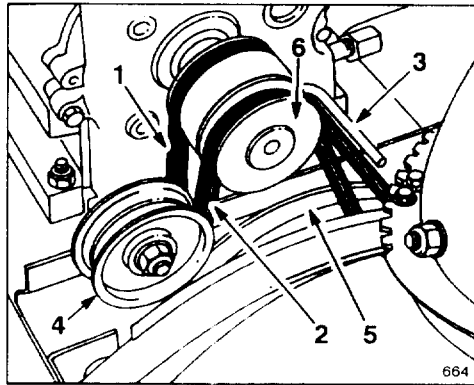

Figure 24
3. Remove auger/impeller drive belt from engine pulley and large auger/impeller pulley (Fig. 24).
4. Install new belt around large auger/impeller pulley (Fig. 24). Next, loop belt over engine pulley, making sure that belt is on inside of idler pulley and belt guide (Fig. 24).
6. Reinstall belt cover with (2) screws.
4. Remove auger/impeller drive belt from engine pulley and large auger/impeller pulley (Fig. 24).
8. Set unit upright and remove traction drive belt from engine pulley and large traction pulley (Fig. 24).
9. Install new belt around large traction pulley. Next, loop belt over engine pulley making sure that belt is on inside of belt guide (Fig. 24).
13. Reinstall auger/impeller drive belt around large auger/impeller pulley and engine pulley, making sure that belt is on inside of idler pulley and belt guide (Fig. 24).
14. Reinstall belt cover with (2) screws.